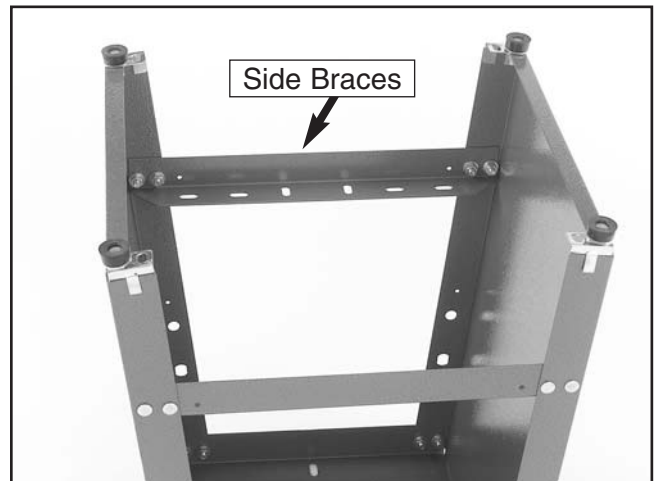

Figure 9. Stand braces attached to stand sides.
4. Attach the side braces to the stand sides as shown in **Figure 9**.